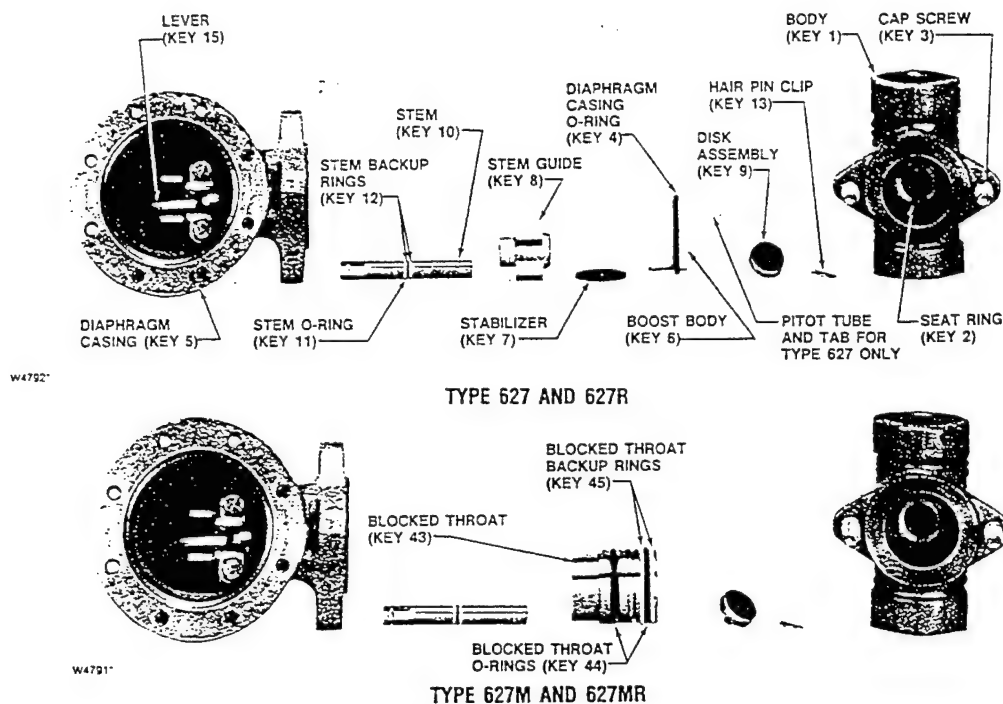
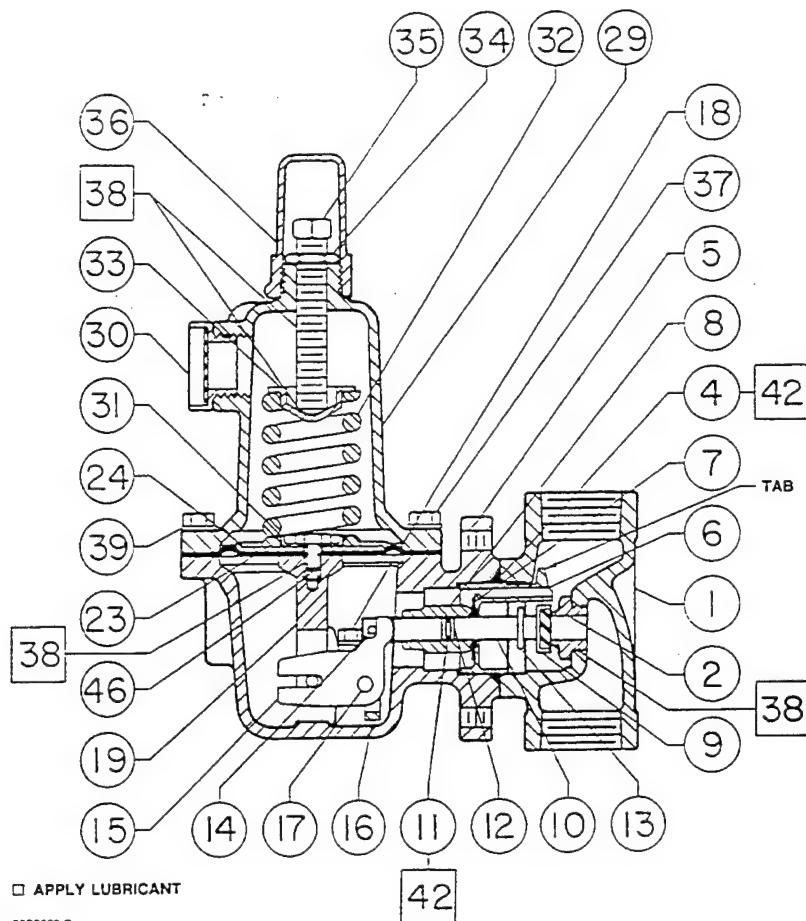

Figure 5. Stem Assemblies
Figure 7. Type 627 Regulator Components
1. To inspect and replace the disk assembly (key 9) or seat ring (key 2), remove the cap screws (key 3, figure 5), and separate the diaphragm casing (key 5) from the body (key 1).
2. Inspect and, if necessary, remove the seat ring (key 2). If removed, coat the threads of the replacement seat ring with lubricant (key 38) and torque to 25 foot-pounds (34 N·m).
3. Inspect the disk assembly and, if necessary, remove the hair pin clip (key 13) that holds the disk assembly (key 9) in place. If replacing the disk assembly is the only maintenance required, skip to step 16.
4. For Type 627 and 627R regulators (figure 5), use steps 5 through 8 to remove and replace the stem assembly.
5. Remove the boost body (key 6), stabilizer (key 7), and stem guide (key 8) from the diaphragm casing (key 5). Unhook and remove the stem (key 10) from the diaphragm casing (key 5).
6. Remove and inspect the diaphragm casing O-ring (key 4, figure 7 or 8) and replace it if necessary.
7. Apply lubricant (key 42) to a replacement diaphragm casing O-ring (key 4, figure 7 or 8) and install it onto the boost body (key 6). Skip to step 14.
8. For the Type 627 regulator, be sure to insert the pitot tube (tab) into the outlet side of the body (see figure 7). Skip to step 14.
9. For Type 627M and 627MR regulators (figure 5), use steps 10 through 14 to remove and replace the stem assembly.
10. To remove the blocked throat (key 43), insert a screw driver blade into the groove provided in the throat and pry it out of the diaphragm casing (key 5). Inspect and replace parts as necessary.
12. Apply lubricant (key 42) to replacement blocked throat O-rings (key 44) and backup rings (key 45).
13. Apply lubricant (key 42) to the replacement stem O-ring (key 11) and stem backup rings (key 12) and install them on the stem (key 10).
14. For assembly, insert the stem (key 10) into the diaphragm casing (key 5) and hook it on the lever (key 15).
15. Insert parts into the diaphragm casing (key 5) that were removed in steps 5 and 6 or step 10 (see figure 5).
16. Install the disk assembly (key 9), line up the hole in the disk assembly and stem (key 10) and insert the hair pin clip (key 13).
17. Position the diaphragm casing plus attached parts in relation to the body (key 1) so that they are correct for the application.
18. Secure the diaphragm casing to the body with the cap screws (key 3, figure 5). For an aluminum diaphragm casing (key 5), torque the cap screws (key 3) to 16 foot-pounds (22 N·m). For ductile iron or steel diaphragm casings, torque the cap screws (key 3) to 25 foot-pounds (34 N·m).
6. For Type 627 and 627M regulators (figures 7 and 9), use steps 7 through 11 to disassemble and reassemble the diaphragm assembly.
7. Remove the cap screw (key 46), lower spring seat (key 31), and diaphragm plate (key 24), then separate the diaphragm (key 23) from the pusher post (key 19).
8. Install the diaphragm (key 23), diaphragm plate (key 24), and lower spring seat (key 31) on the pusher post (key 19), insert and finger tighten the diaphragm plate cap screw (key 46).
9. Hook the pusher post on the lever (key 15), then turn the diaphragm (key 23) to match the holes in the diaphragm with the holes in the spring casing.
10. Unhook the pusher post from the lever and torque the diaphragm head cap screw (key 46) to 7 foot-pounds (9 N•m).
11. Hook the pusher post on the lever (key 15) and check the hole alignment. If necessary, loosen the cap screw (key 46) and reposition the diaphragm (key 23) on the pusher post (key 19). Retorque the screw (see step 10). Skip to step 20.
When corresponding with your Fisher sales office or sales representative about this regulator, always reference the type number which is found on the nameplate (key 39, figures 7 through 10).